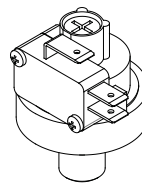

fig. 43
- check if manometric switch (fig. 43) is defective (at control box), or air pressure is too too low due to following possibilities: